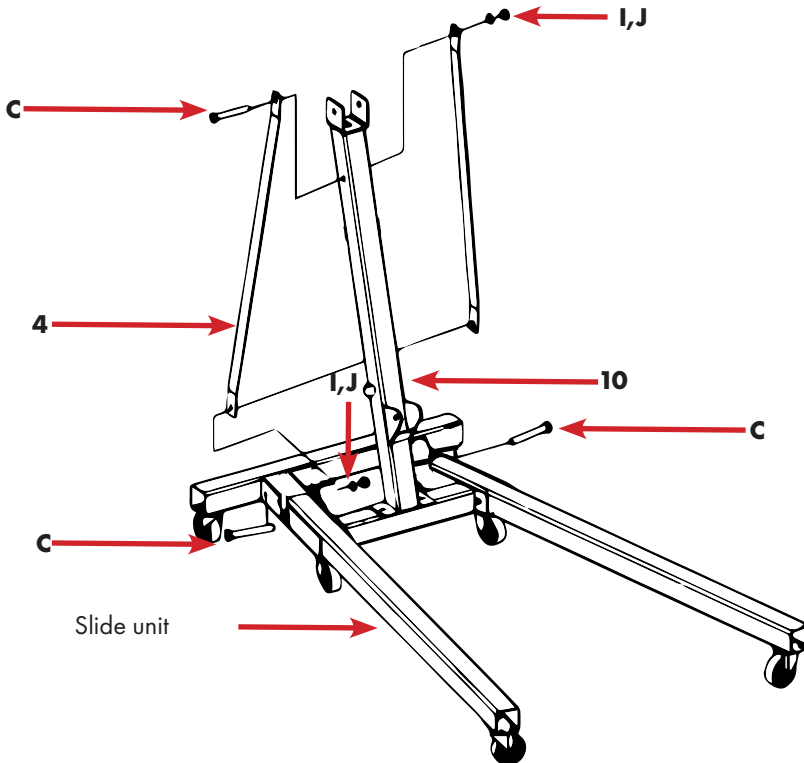

fig.12
- Install the supports with the M16x110 bolts and the corresponding washers and nuts as shown in fig..12.